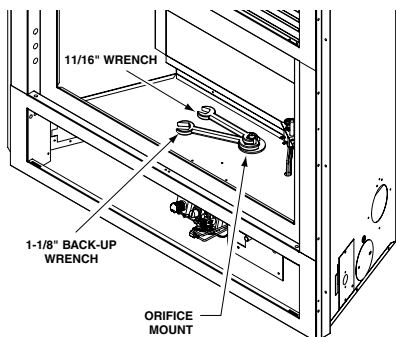

Figure 5 - Removing Main Burner Orifice
5. Use a 1-1/8" back-up wrench on the bulkhead fitting and a 11/16" wrench to remove the main burner orifice (see **Figure 5**, page 3).